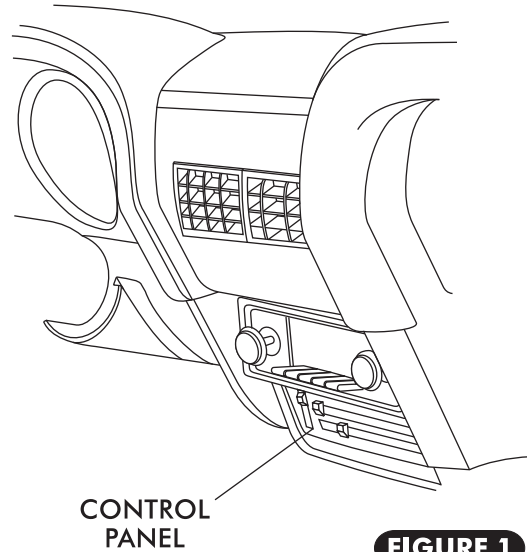

FIGURE 1
- ☐ REMOVE THE (3) OEM MOUNTING SCREWS FROM CONTROL PANEL. SEE FIGURE 1.